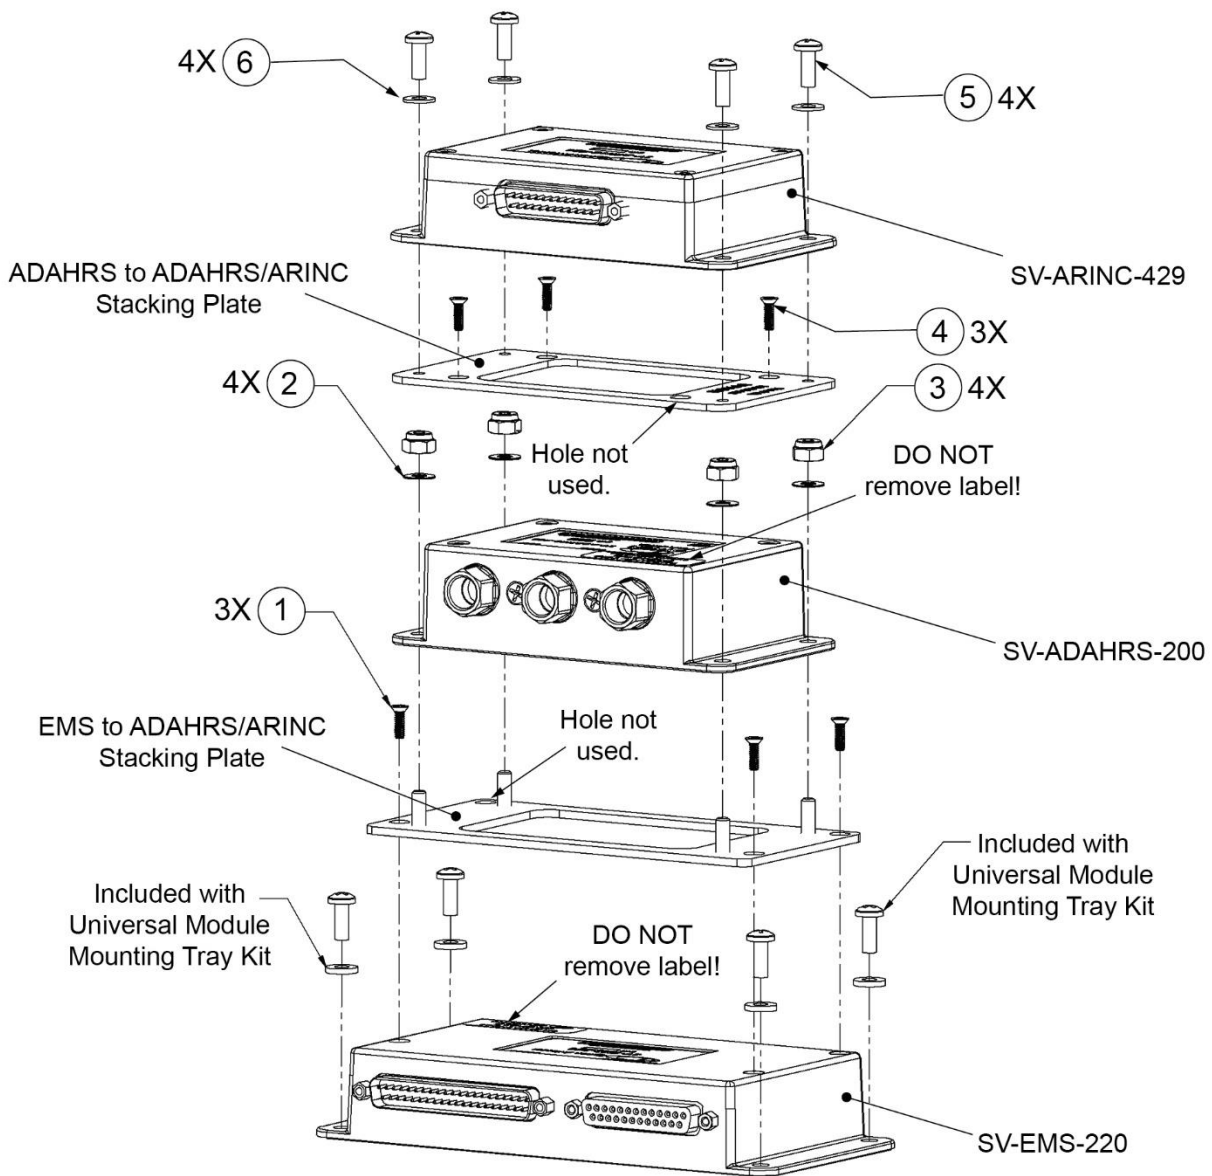

Figure 12 – Usage Example of Module Stacking Kits
The materials identified in Table 10 are provided with the EMS to ADAHRS/ARINC Module Stacking Kit and the ADAHRS to ARINC Module Stacking Kit. ITEM numbers call-out parts in Figure 12.
2. Use provided screws to secure stacking plate to module (see Figure 12).
3. Attach module to stacking plate using provided fasteners, as shown in Figure 12.